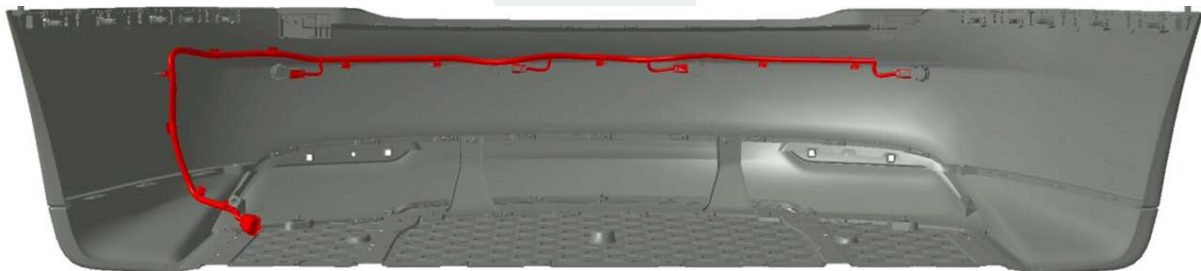

Figure 4
b. Secure the park assist harness assembly to the rear fascia (Figure 4).